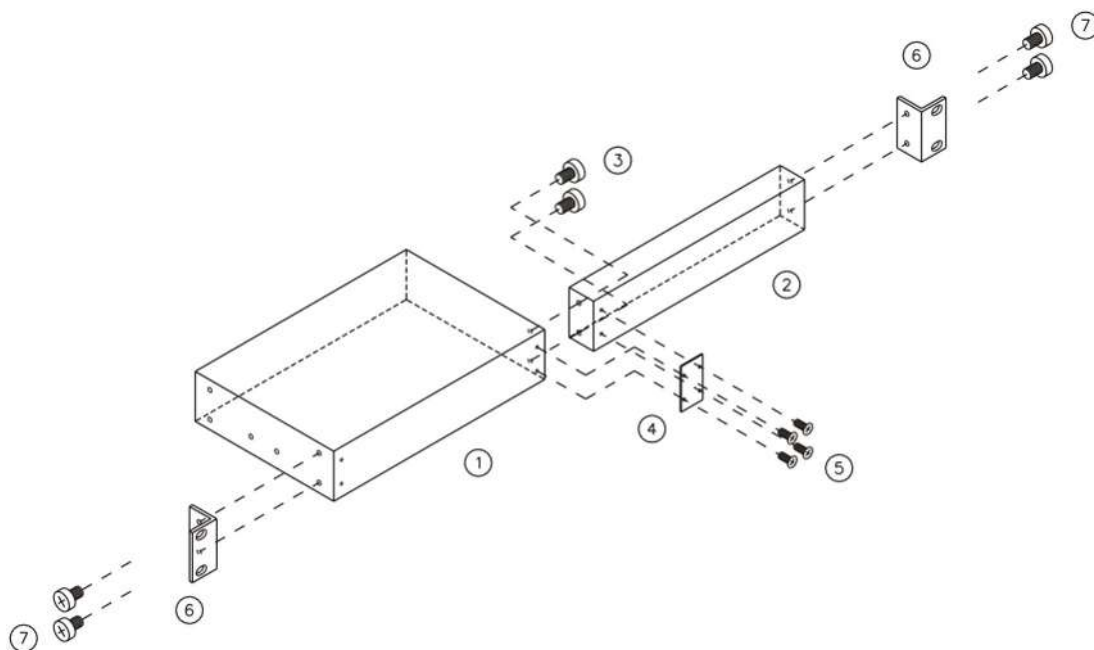
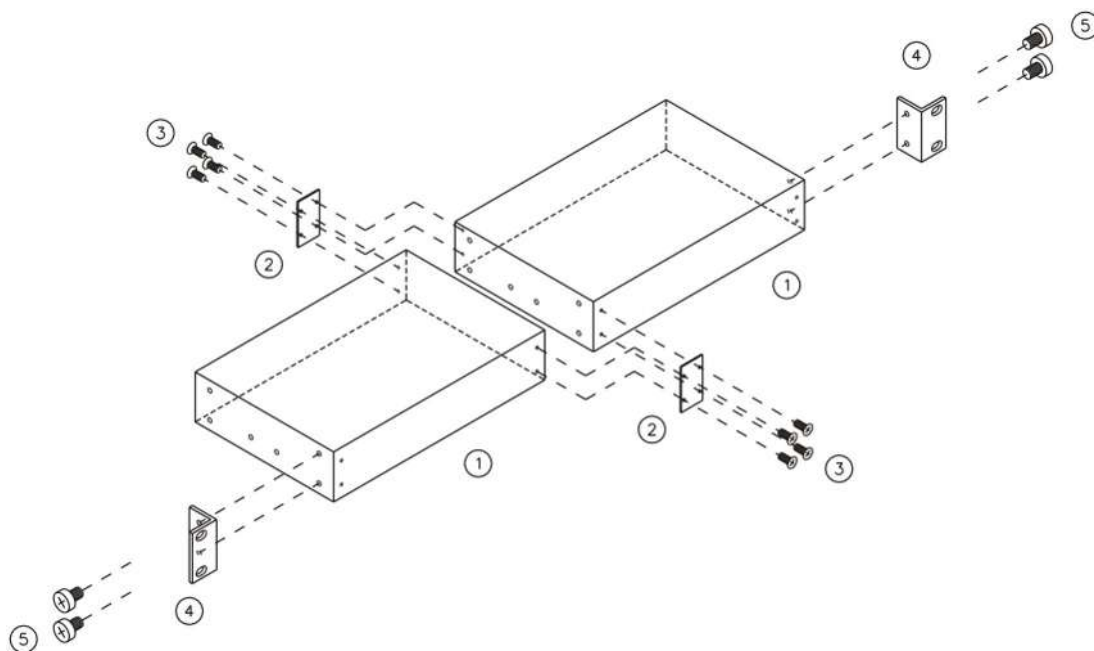
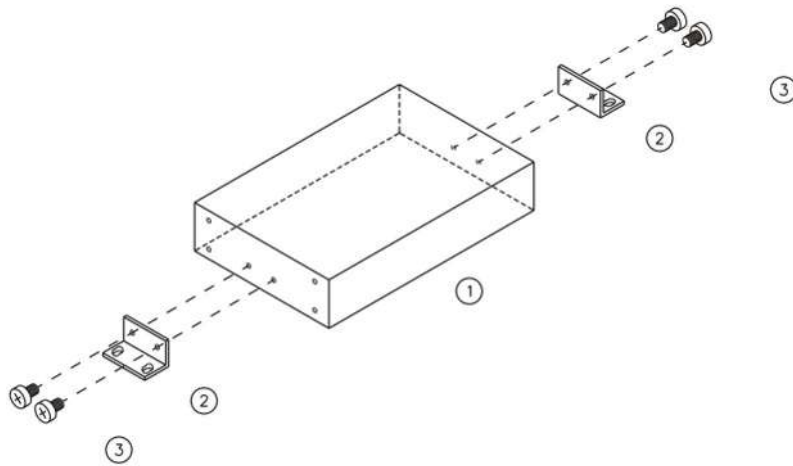
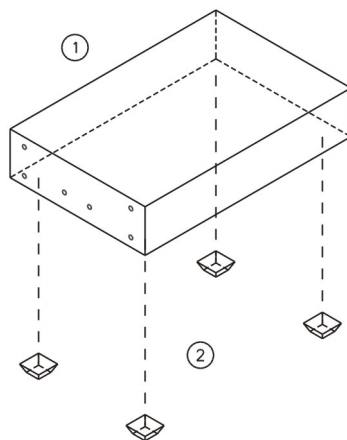

Fig. 18: 19" installation of Multi PMP or Power Distribution for Multi PMP and filler panel ½ 19"
Fig. 19: 19" installation of Multi PMP and Power Distribution for Multi PMP
Fig. 20: Wall mounting of Multi PMP or Power Distribution for Multi PMP
Fig. 21: Desktop operation of Multi PMP or Power Distribution for Multi PMP
The different installation possibilities and the correct installation of the required installation components are described in the following (see Fig. 18, p. 20, Fig. 19, p. 20, Fig. 20, p. 21, Fig. 21, p. 21).
If only a **Multi PMP** or a **Power Distribution for Multi PMP** is supposed to be mounted into a 19" rack, the filler panel ½ 19" ASC no.: 79931023 is required (see pos. 2 in Fig. 18, p. 20).